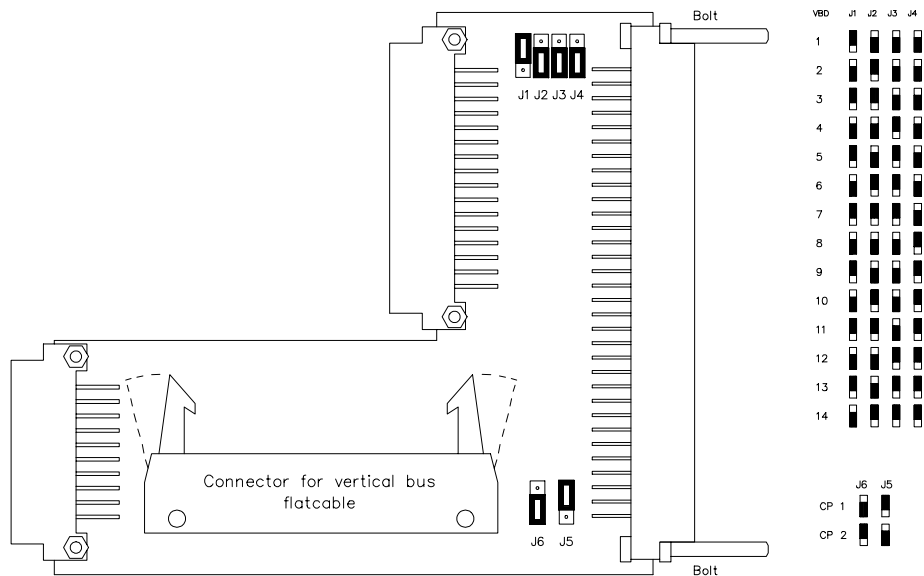

Figure 4 Jumper setting on 10001/A/1 module for CP 1, VBD 1
Jumpers J1 to J4 on the wiring part (10001/A/1) are used to set the VBD number (see Figure 4).
Jumpers J5 and J6 on the wiring part (10001/A/1) are used to set the Central Part (CP) number (see Figure 4).